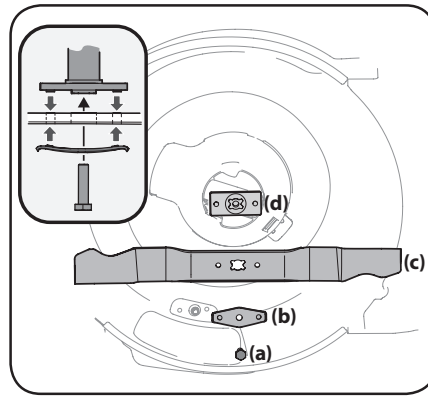

Figure 4-6
- Remove bolt (a) and blade bell support (b) which hold the blade and the blade adapter to the engine crankshaft. See Figure 4-6.
- Remove blade (c) and adapter (d) from the crankshaft. See Figure 4-6.
- Lubricate the engine crankshaft and the inner surface of the blade adapter with light oil. Slide the blade adapter (d) onto the engine crankshaft. Place the blade on the adapter such that the side of the blade marked "Grass Side" (or with part number) faces the ground when the mower is in the operating position. Make sure that the blade is aligned and seated on the blade adapter flanges. See Figure 4-6 inset.